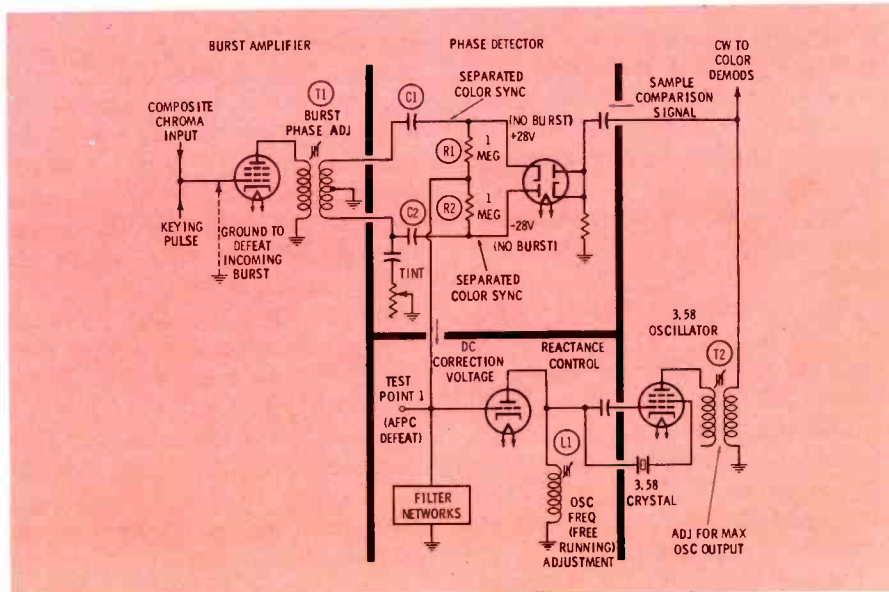

Fig. 4. Simplified schematic of chroma sync stages.
3. If the improper amount of equal voltage is developed, or if zero voltage is developed, check for loss of the sample signal from the oscillator. (The +28 and -28 voltages shown in Fig. 4 are typical with no burst input. For the correct values for any particular chassis the proper PHOTOFACT folder should be consulted. Possible causes of an unbalanced phase de-